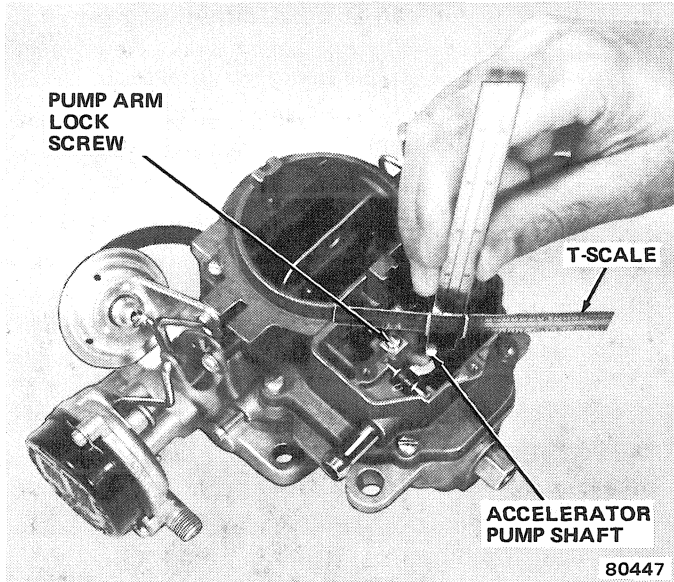

Fig. 1J-110 Accelerator Pump Adjustment
- (1) Remove dust cover.
- (2) Back off idle speed adjustment screw to completely close throttle valves. Open choke valve so that fast idle cam allows throttle valves to seat in bores.
- (3) Turn idle speed adjustment screw in until it barely contacts stop. Then continue two complete turns.
- (4) Measure distance between surface of air horn and top of accelerator pump shaft (fig. 1J-110). Refer to Specifications for correct dimension.